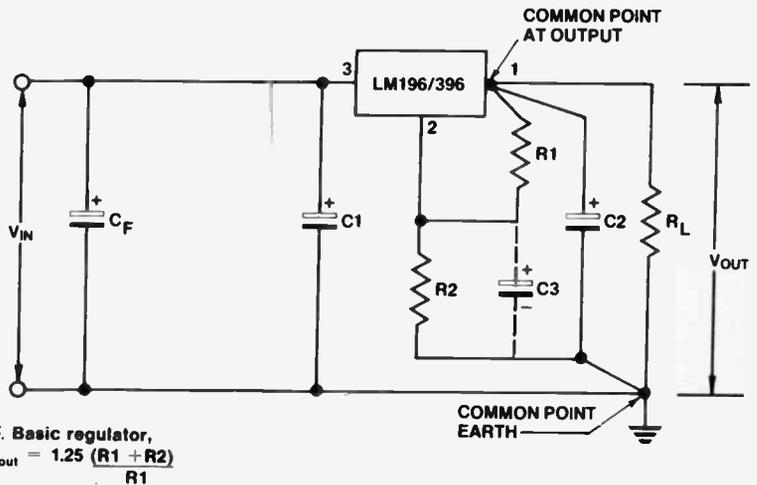

Figure 5. Basic regulator,
2. directly to the output of the regulator as shown in Figure 5.
### Components in Figure 5.